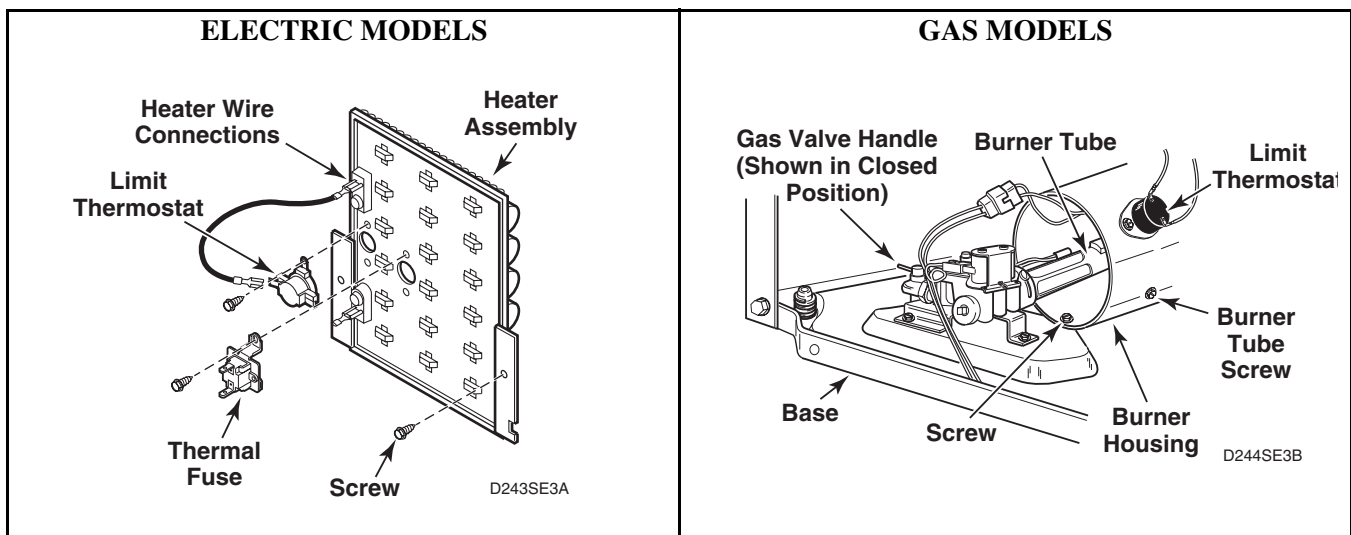

Figure 39
- (1) Remove one screw from right side of burner housing holding burner tube in place. Refer to *Figure 39*.
- d. Remove screw from right side of burner housing, while holding burner tube in place. Refer to *Figure 39*.
- i. Remove screw holding front of burner housing to dryer base and remove housing out through front of dryer. Refer to *Figure 39*.
- c. Disconnect wires and remove screws holding limit thermostat to burner housing (gas models) or element plate (electric models). Refer to *Figure 39*.
- c. Remove two screws holding heater assembly to heater box and remove heater assembly out through front of dryer. Refer to *Figure 39*.
- d. Disconnect wires from heater assembly. Refer to *Figure 39*.
- c. Disconnect wires and remove thermostat attaching screws. Refer to *Figure 39*.